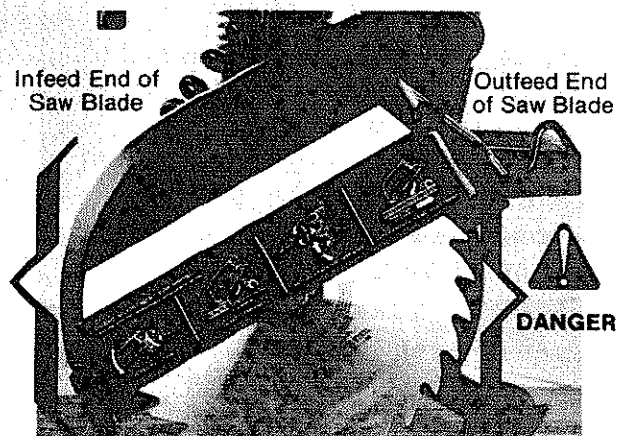

Fig. 101 Infeed and Outfeed Ends of Saw Blade
Wrong way feed is feeding the workpiece into the end of the blade with pawls, the outfeed end. (Fig. 101) There are two things that can happen if you feed the workpiece into the outfeed end of the saw blade:
4. Go to the in-feed end of the saw blade. Fig. 101.